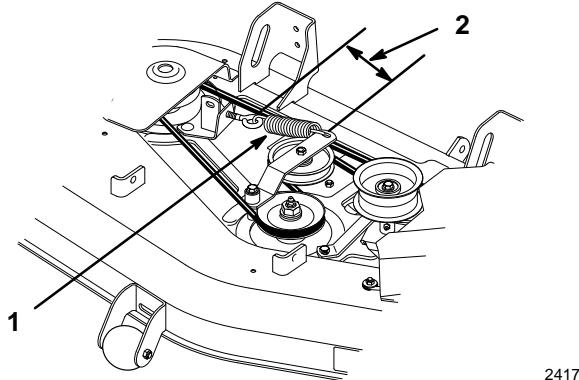

Figure 29
3. Loosen idler spring and remove the belt from the pulleys (Fig. 29).
2. Adjust idler spring tension until length between hooks is 5-1/2" (140 mm) (Fig. 29).